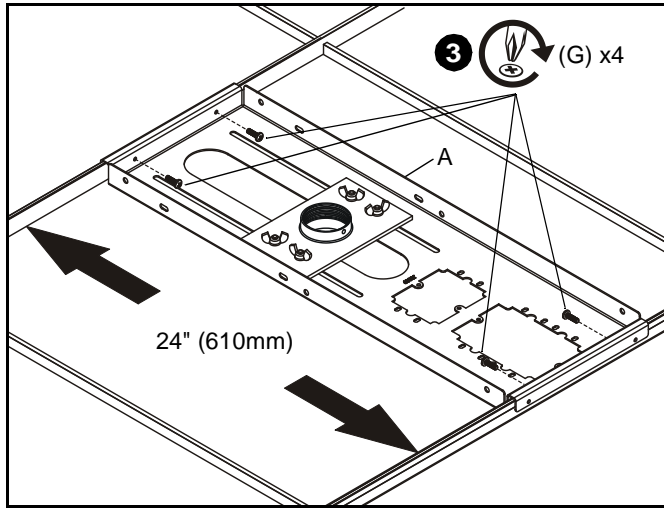

Figure 7
2. Reinstall tray (A) on top of ceiling tile so that extension column support is centered over hole in tile.
3. Position tray (A) with four screws (G) as required:
- For 24" (610mm) Framework: Install screws through end bracket *inside* holes (See Figure 7).